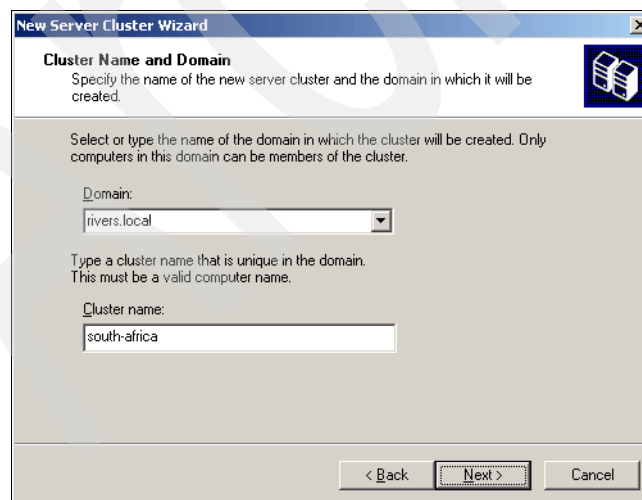

Figure 23-41 Cluster name and domain
4. Enter the name for your cluster and click **Next**. The domain is detected automatically. See Figure 23-41.